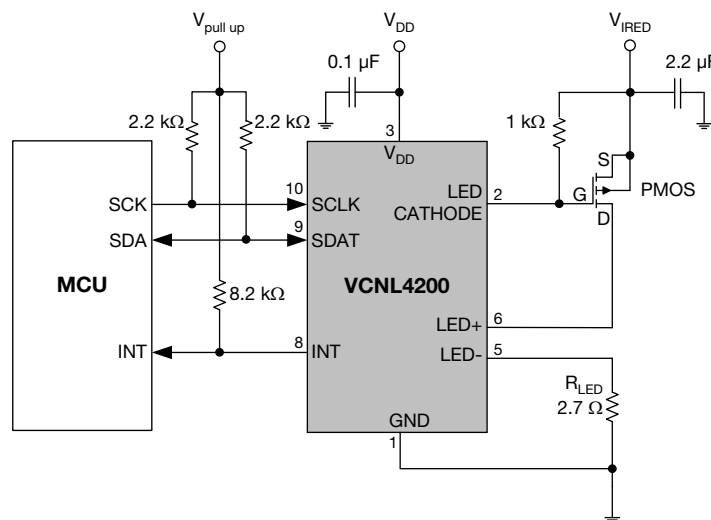

Fig. 11 - Application Diagram
- (1) Light source: white LED
- (2) Maximum detection range to ambient light can be determined by ALS refresh time adjustment. Refer to table 17 “ALS Resolution and Maximum Detection Range”
- (3) Based on IRED on / off duty ratio = 1/160, 1/320, 1/640, and 1/1280. The circuitry should use an external MOSFET as shown with Fig.11. Please see also the Application Note “Designing the VCNL4200 into an Application” (www.vishay.com/doc?84327)